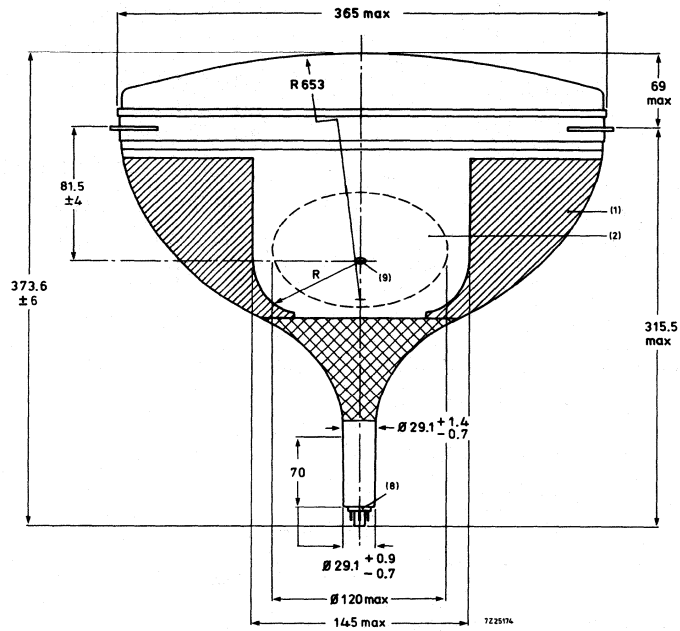

Fig. 1.
**MECHANICAL DATA** (see Figs 1 to 9)